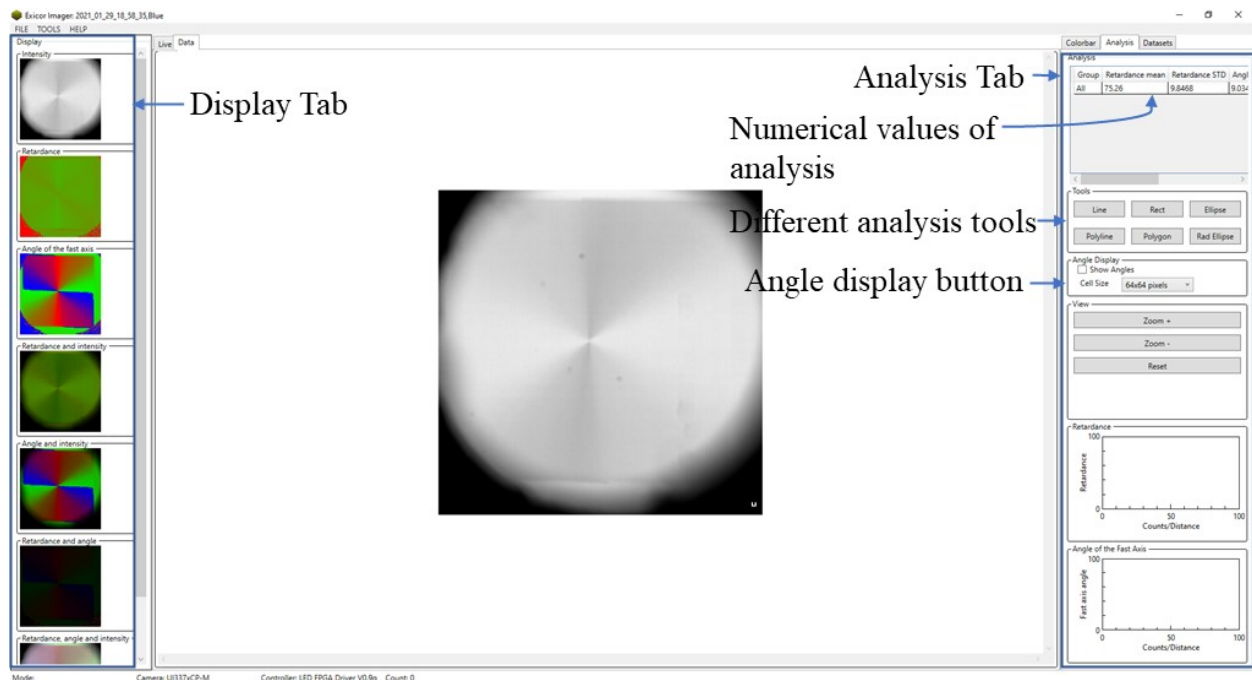
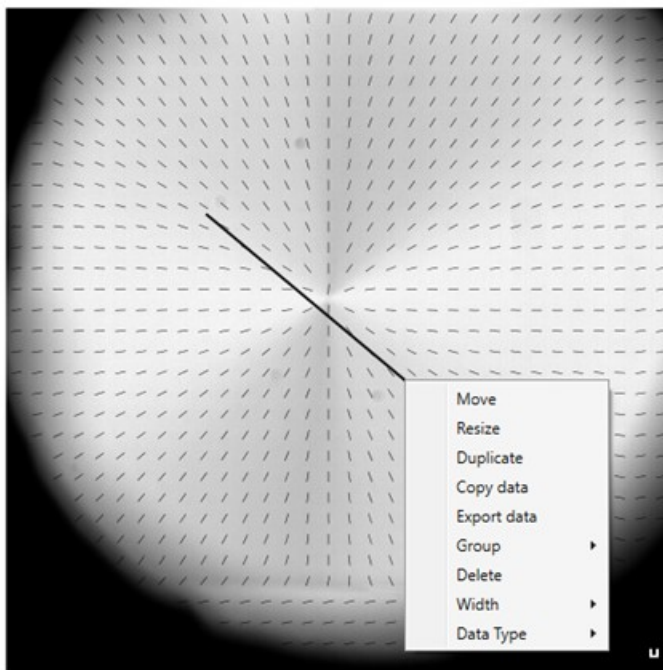

Fig. 5 Displaying results in **Data** tab
Fig. 7. Varieties of functions available for the Line analysis tool
When the scan complete, the **Live** window will switch to the **Data** tab. The **Data** tab has the results displayed as the colored images in the **Display** tab with 7 different formats: **Intensity**, **Retardance**, **Angle of the fast axis** (After inserting 90 ° offset, shows slow axis), **Retardance and Intensity**, **Angle and Intensity**, **Retardance and Angle**, **Retardance, Angle and Intensity** and **Analysis** tab on the right as shown in Fig. 5.
7. To see the director field, go to the **Analysis** tab → mark **Show angles** inside the **Angle display** button (Shown in Fig. 5).
9. The numerical values of analysis for the current image are found in the upper part of the Analysis tab. The first row will always have the mean and standard deviation of the retardation, mean angle, and mean intensity of the entire image (as shown in Fig. 5).
10. Several shape tools for drawing out data from specific parts of the image are available in the Tools menu of the Analysis tab (as shown in Fig. 5). To access these tools, click the tool → draw this tool in the interested region of the image. The analysis of the selected region will appear as the additional rows in the upper part of the Analysis tab. A variety of functions available for each tool can be accessed by right-clicking on the shape (e.g., as shown in Fig. 7 for the Line tool).
17. Measure the exact same area of the sample with all four wavelengths (Blue, Green, Orange Red, Dark Red). For this, go back to the **Live** tab → mark the desired wavelength → press the **Auto Set Exposure** button → press **Sample** button. Then new images will be displayed as in Fig. 5 in the **Data** tab. All these datasets (including other previous datasets) will appear in the **Datasets** tab with the corresponding **recorded date, time, and wavelength**.